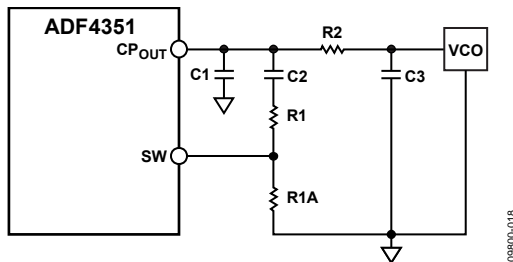

Figure 31. Fast Lock Loop Filter Topology 1
- The damping resistor (R1) is divided into two values (R1 and R1A) that have a ratio of 1:3 (see Figure 31).